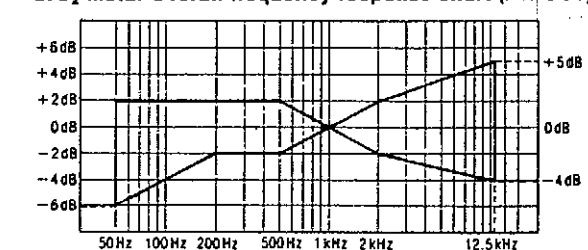

Fig. 9
6. Assume that the level is within the range shown in Fig. 9.